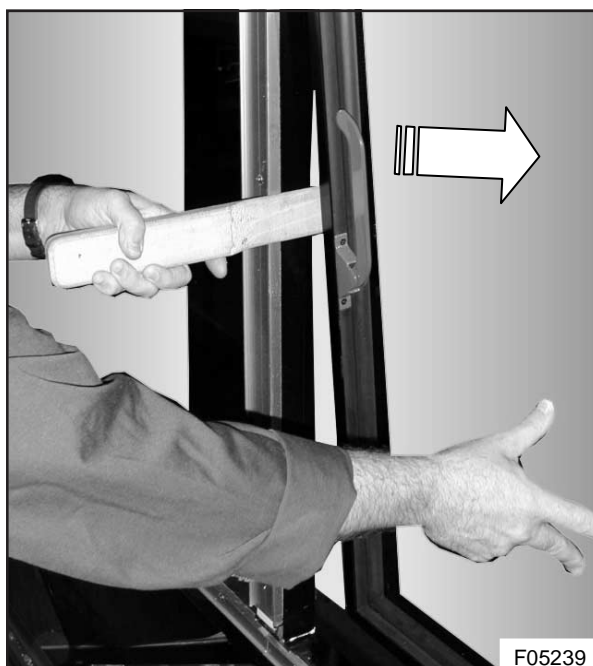

Figure 11 : Pushing the window sideways
2. Slip a suitable levering tool between the window and the window frame at the emergency release handle side and push the window sideways in the direction shown as far as it will go (see Figure 11).